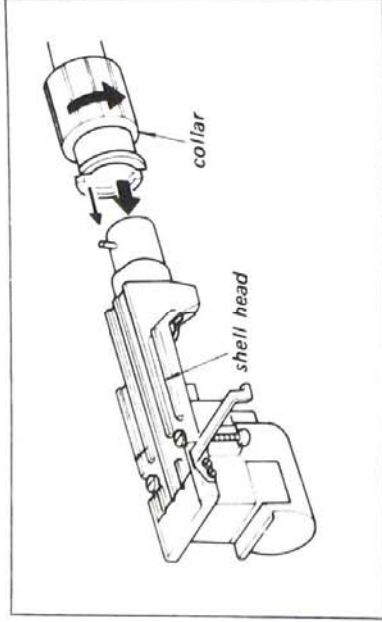

Fig. 2-6. Shell head removal.
1. Remove the shell head from the tonearm by loosening the collar as shown in Fig. 2-6.
2. Remove the shell head from the tonearm by loosening the collar as shown in Fig. 2-6.